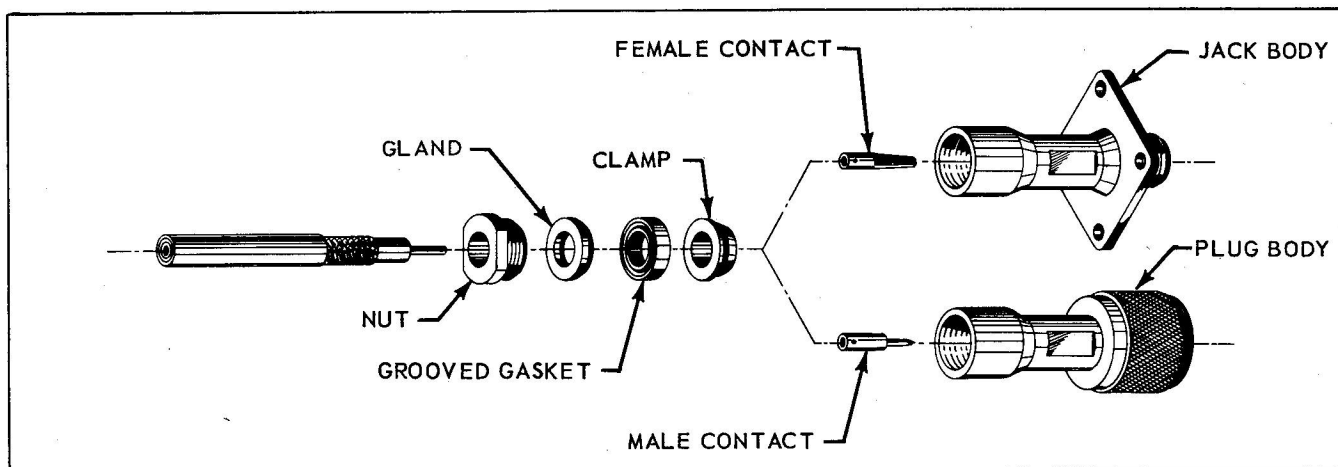

Figure 4-23. Air Force Version HN Connectors - Exploded View
b. Air Force Version (See Figure 4-23) - consists of a plug or jack body assembled to coaxial cable with nut, gland, grooved gasket and clamp. Plug UG-59B/U and Jack UG-60B/U are typical of this version. These differ from the standard version in the shape of the gasket. The gland has a sharp face which cuts into the grooved gasket and thus makes a tight seal.
- a. Disassemble nut, gland, grooved gasket and clamp from plug or jack body. See Figure 4-23.